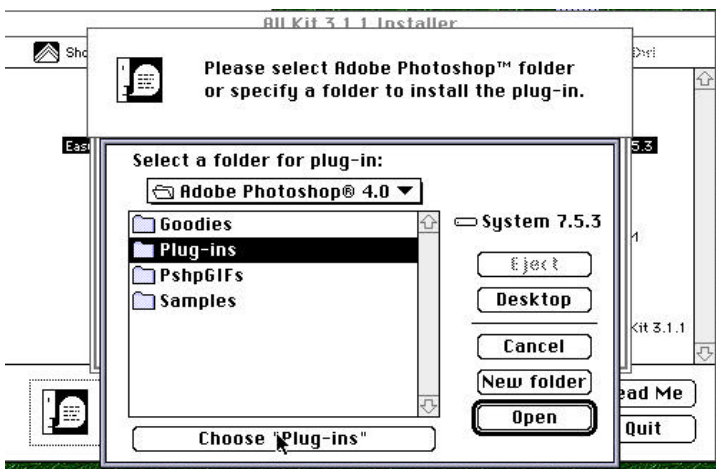

Figure 3-3 Select a folder for plug-in
5. Click Easy Install icon and drag it to system in the right side. A dialog box as Fig. 3-3 appears. Select name of your application (as PhotoShop...) for plug in. Choose Plug in.